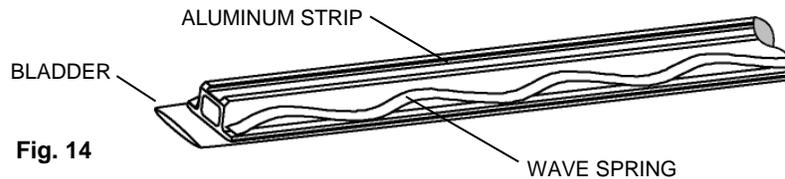

Fig. 14
- Install the wave springs on top of each side of the aluminum external element (Fig. 14).
Ruptured bladder	Remove external element and inspect bladder for cracks. Aluminum external element only – ensure that wave springs are correctly installed (Fig. 14, page 13). They should sit on top of the aluminum strip.